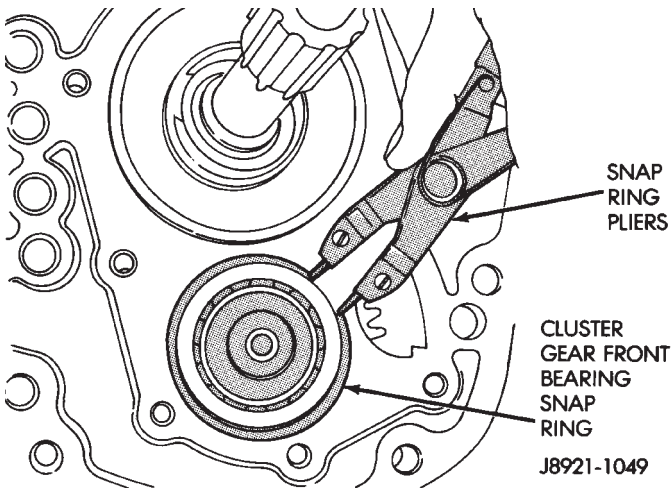

Fig. 33 Remove Cluster Gear Snap-ring
- (22) Remove cluster gear bearing snap-ring (Fig. 33).